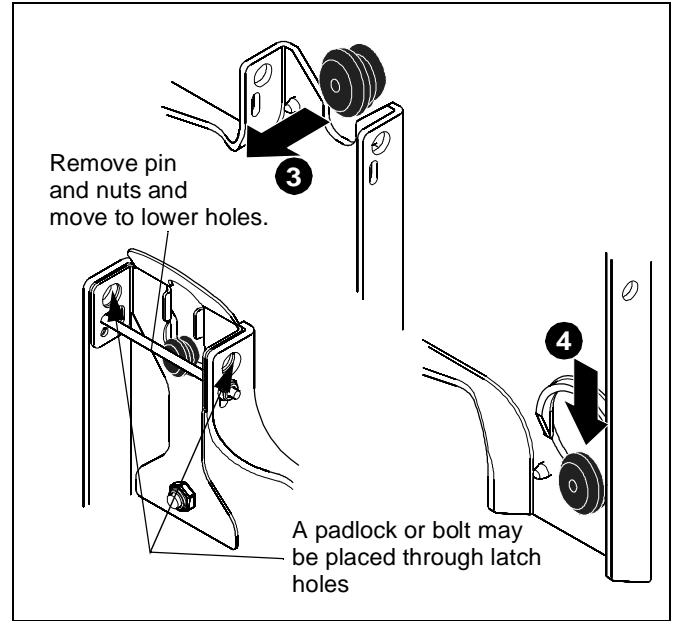
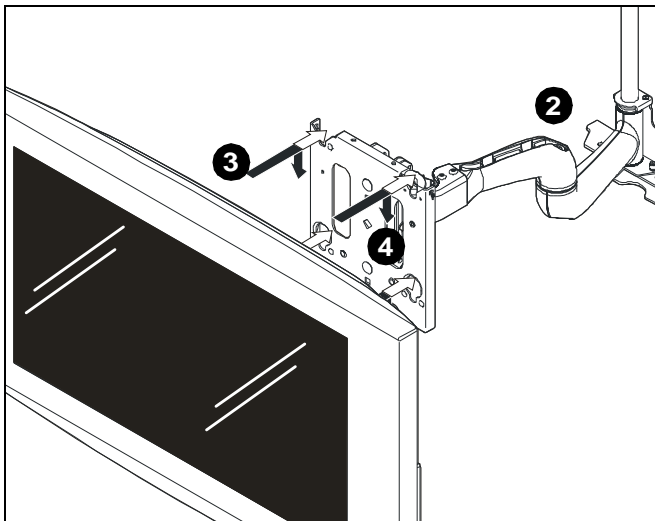

Figure 5
Figure 4
2. Move mount faceplate to extended position by grasping faceplate and pulling outward away from wall. (See Figure 4)
3. While supporting both sides of display, align four mounting buttons on display or interface bracket with four mounting holes in faceplate. (See Figure 4)
4. Lower display into place listening for audible "click" to ensure recessed area of mounting buttons are properly seated in lower area of mounting holes and "click lock" mechanism has engaged. (See Figure 4) and (See Figure 5)
NOTE: Holes are provided in the faceplate for use with a padlock or similar locking device, if desired. In addition, the pin and nut may be removed from the upper holes and moved to the lower holes for use as a more permanent locking device. (See Figure 5)